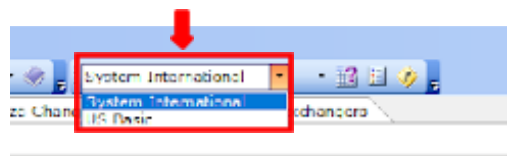

Figure 18: Unit Selector Drop-Down Menu.
18. Click the drop-down menu to select a unit set. There are two default unit sets available: System International and US Basic (Figure 18).